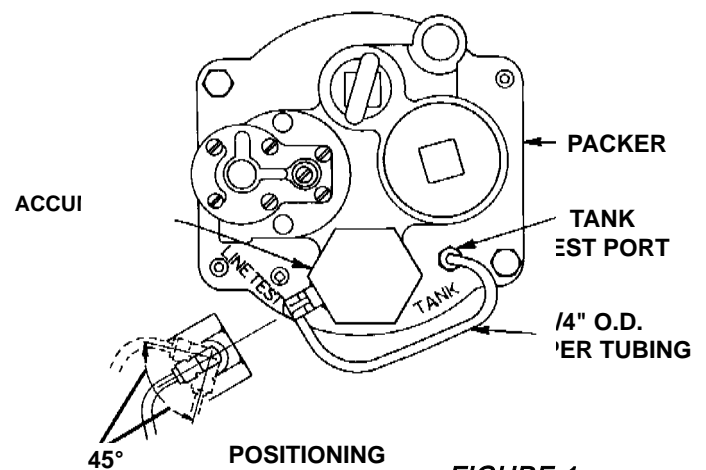

FIGURE 1
5. Remove 3/8" plug from the tank test port on top of pump (See Figure 1.)
- c. Remove plastic thread protector plug from vent port on Accumulator. Apply UL Classified non-toxic pipe thread sealant to vent tube elbow fitting and install Accumulator vent port. Elbow should be pointed downward for best protection of tubing. (See Figure 1.)
6. Install tubing vent line into both fittings as shown in Figure 1.